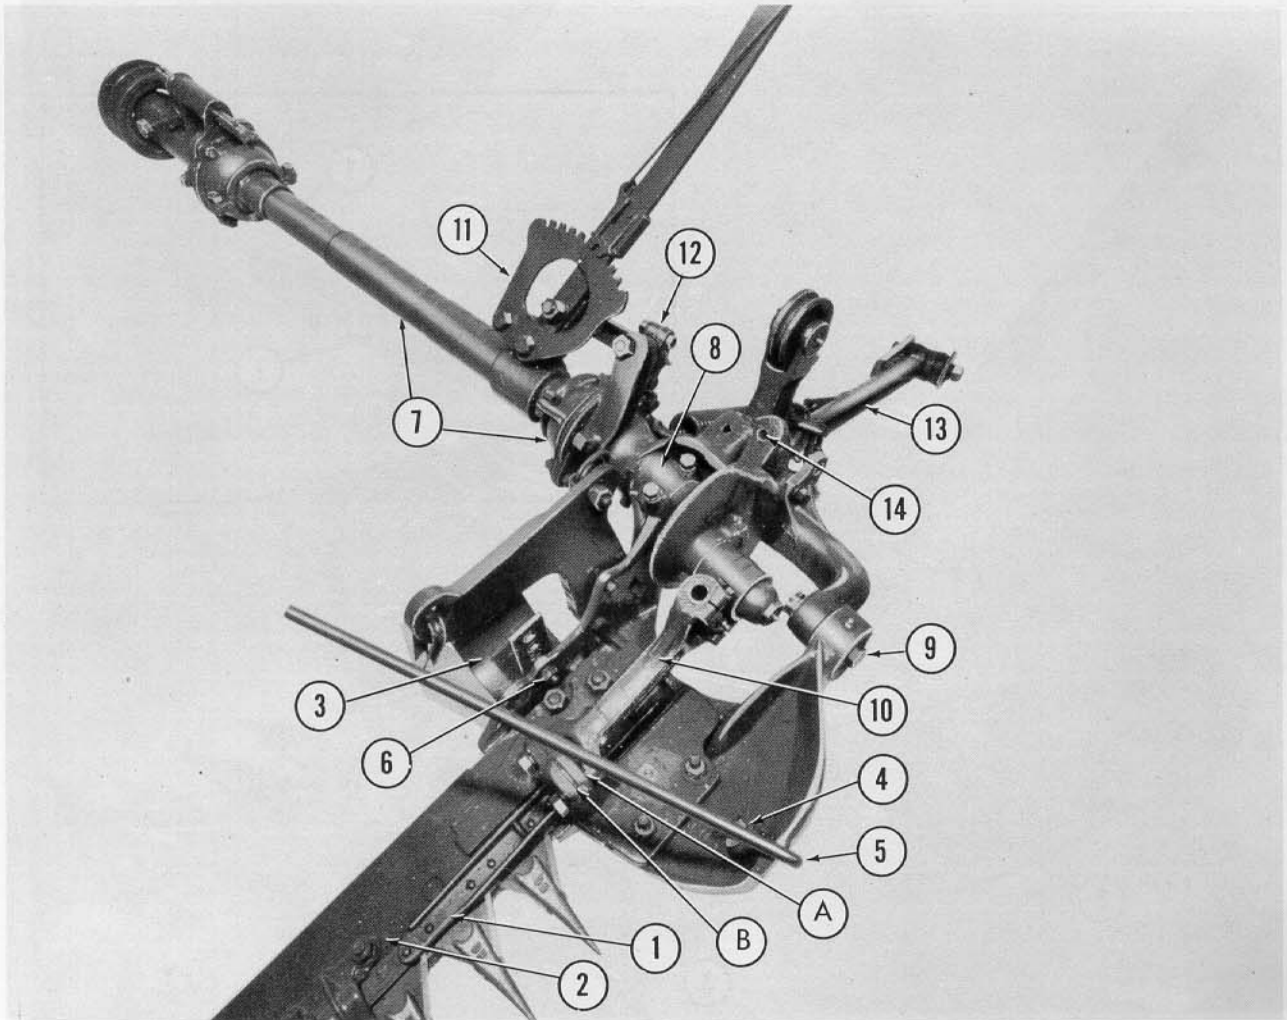
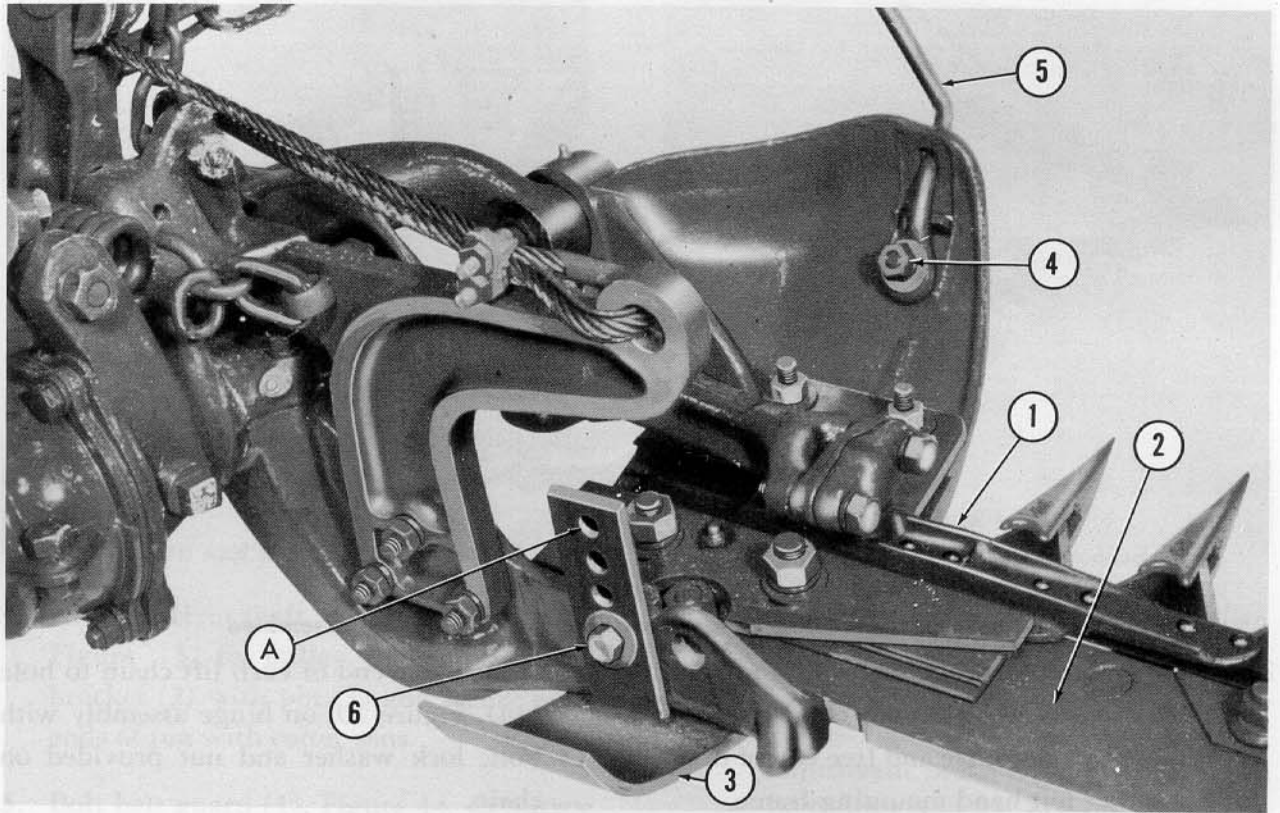

Figure 10
Figure 11
16. Slide sickle (1), Figure 10 and 11, into position on cutter bar assembly (2).
17. Attach sole assembly (3), Figure 10 and 11, to under side of inner shoe. Insert bolt (4) through forward end of sole and shoe assembly. Place grass rod (5) in position and secure with large flat washer, Tighten nut sufficiently to permit securing with cotter pin.
lock washer and nut provided with assembly. Secure rear end of sole assembly to inner shoe with bolt (6), Figure 10 and 11, lockwasher and nut provided on shoe assembly. Figure 11 shows rear view of inner shoe and hinge assembly.
18. Attach drive shaft and hinge assembly (7), Figure 10, to inner shoe assembly as follows:
- a. Remove bearing cap (8) from inner shoe casting.
- b. Remove bolt (9) and bushing from hinge bracket arm.
19. Attach pitman rod (10), Figure 10, to ball on sickle head and secure with cap screws. Be sure all shims are in proper position, between halves of pitman rod socket joint.
20. Attach tilt lever ratchet (11) to bracket arm on driveshaft assembly, and socket
end of tilt link (12), to ball on arm of casting. (See figure 10.)
21. Remove large castellated nut and washer from threaded end of drag bar (13) and remove paint from machined surface.
23. Attach free end of curb lift chain to hole (14), Figure 10, on hinge assembly with bolt, lock washer and nut provided on chain.
2. **Inner End:** The inner shoe sole has four holes in upright member for vertical adjustment of shoe. (See (A), Figure 11.)